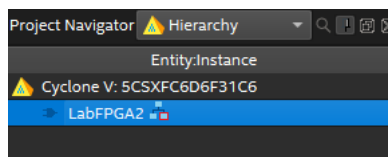

Figure 3. Show New Module
6. In the left panel of the software, **double-click** on LabFPGA2 (Figure 3) to view the added module.